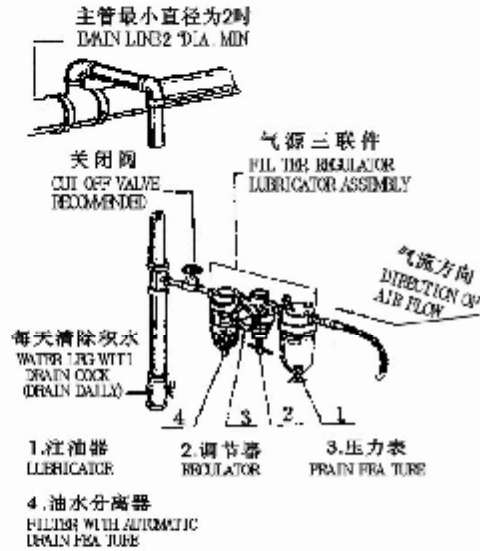

图1 (Fig1)
1. When operating make sure the compressed air source is between 0.35-0.6MPa in the workshop. The compressed air should go into the machine through cut-off valve, filter, the regulator valve and the oil lubricator (called three union in short). Branch pipelines are taken from the top of the main pipeline. The air hose tube is above 12.7mm. D. see fig1.